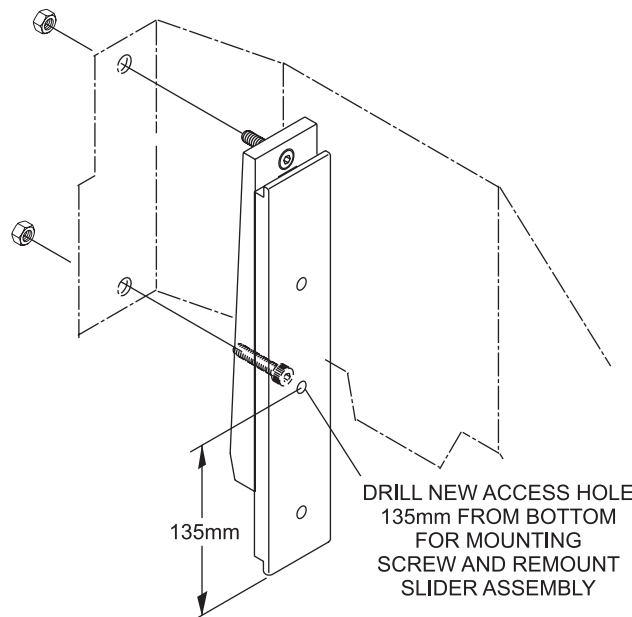

Figure 7
7. Hold the slider assembly up in its normal mounting position on the distributor. The slider should be down at its lowest position. Mark and drill an 8mm access hole, 135mm from the bottom of the slider, centered side to side. You should now be able to access both slider assembly mounting bolts. Refer to Figure 7.
8. Reinstall the slider assembly to the distributor frame. Refer to Figure 7.